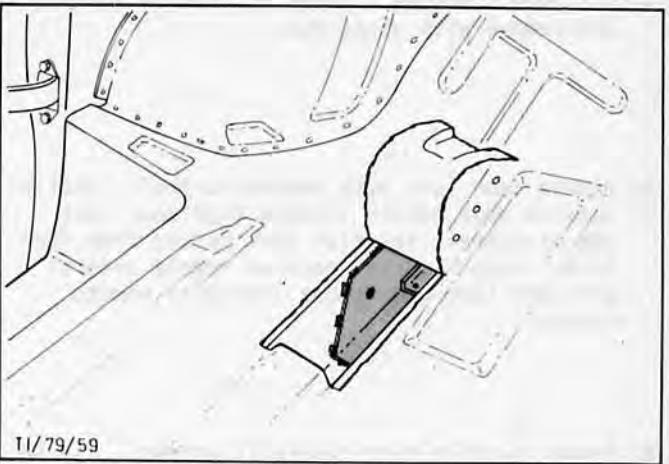

Fig.95. Weld internal shoe in side member.
19. From the inside of the cab, weld the internal shoe through the opening in the floor panel, Fig.95.